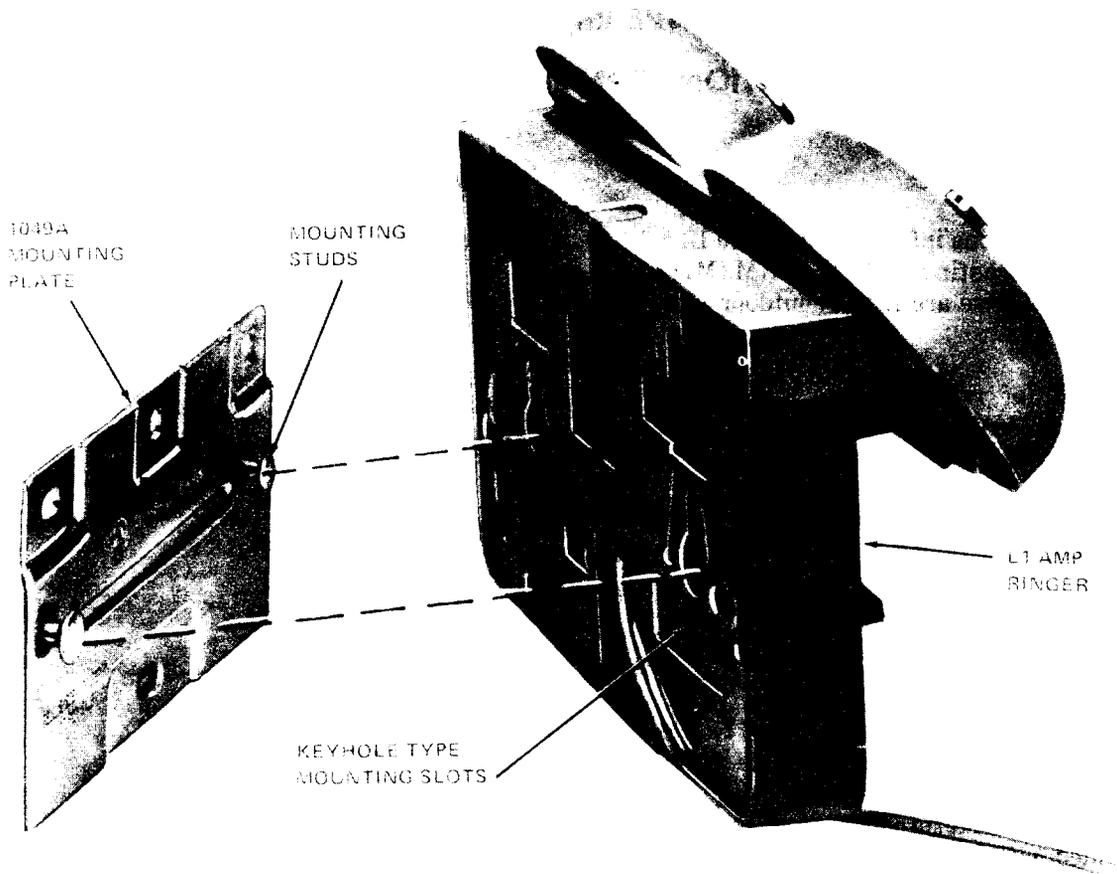

Fig. 2—♦L1AMP Ringer and Mounting Plate (Indoor Installation)♦
3.04 To mount ringer to mounting plate, align mounting plate studs with keyhole-type slots in ringer, press ringer down on mounting plate until mounting studs completely engage ringer (Fig. 2).